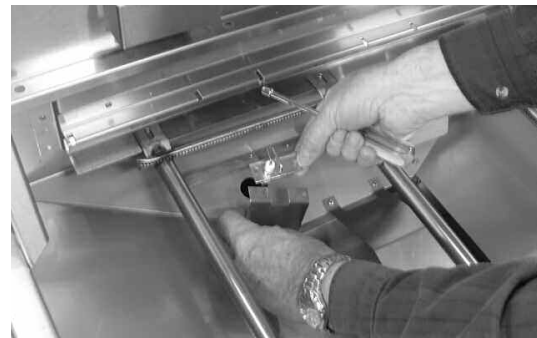

Fig 4
4. Lay igniters on floor of grill. (See Fig. 4)